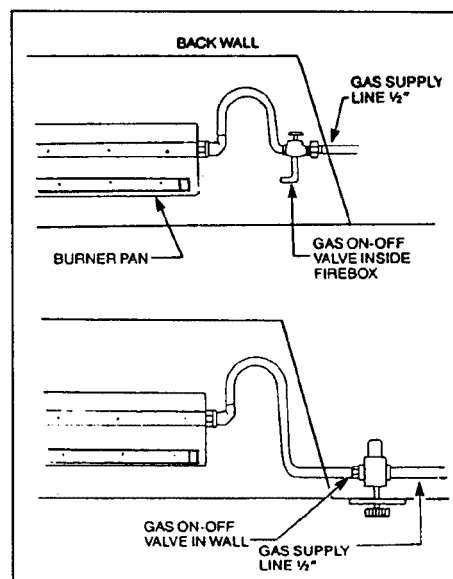

Figure 4. Gas line installation - Masonry Fireplace
- E. **Masonry fireplace:** A 1/2 inch gas supply line must be provided to the firebox. Most installations require drilling an access hole through the masonry wall. The supply line should be secured and sealed by mortar within the access hole. The supply line should also have a shutoff valve either in the wall or inside the fireplace (see **Figure 4**).